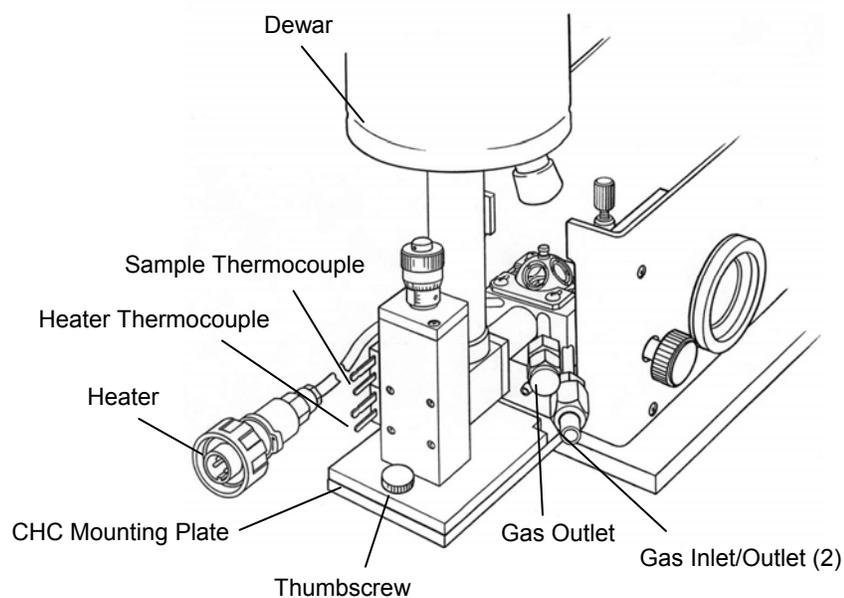

Figure 30 • The CHC installed
- Fasten the thumbscrew (Figure 30) to secure the CHC to the CHC mounting plate.